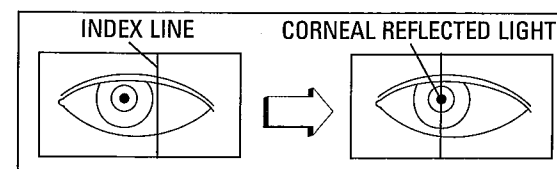

Figure 1
5. Look through the Operator Viewing Window and observe the corneal reflected light on the center of the patient's cornea. Move the Measurement Slide until the index line is directly over the center of the corneal reflected light (see Figure 1, below).